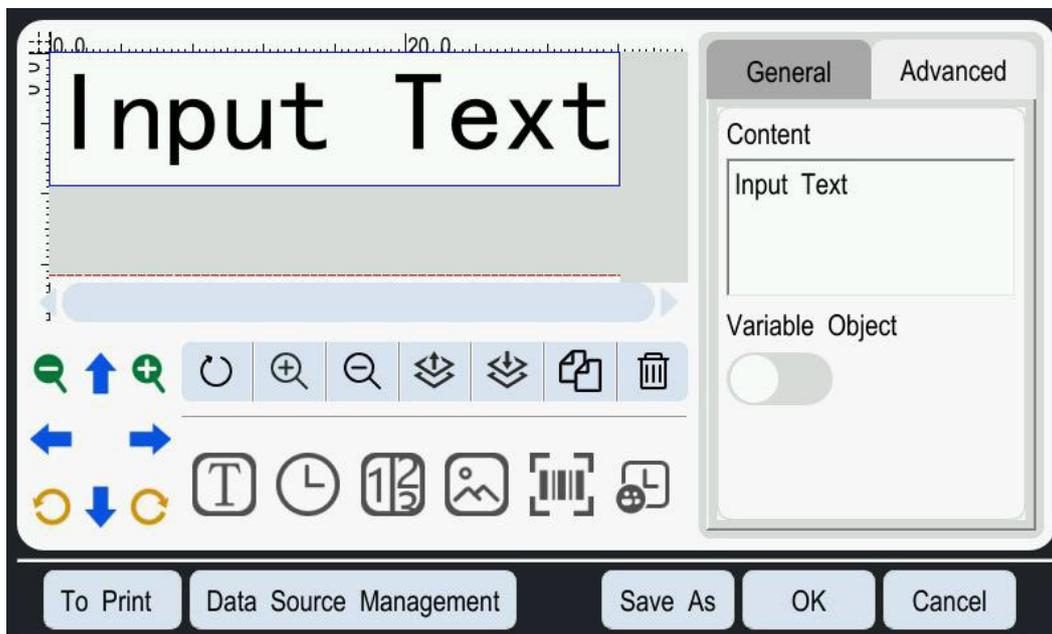

Figure 5-5: Text Editing Interface
2. Click the content box in the Advanced interface and enter the required information using the keyboard that appears, as shown in Figure 5-5.